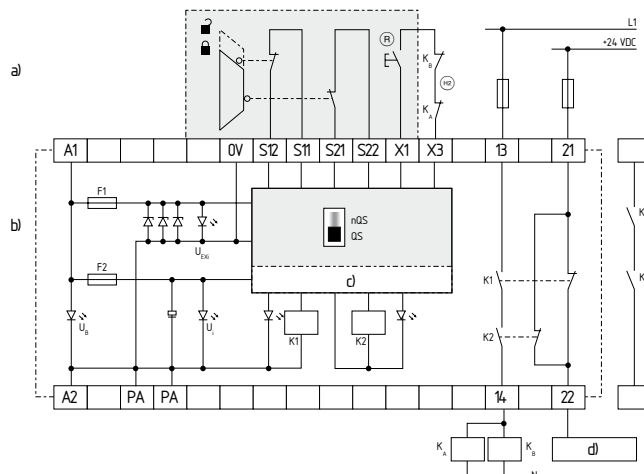

Fig. 6
Dual-channel control, shown for a guard door monitor with two position switches where one has a positive break contact; with external reset button (R) (Fig. 6)
- (R) = Feedback circuit